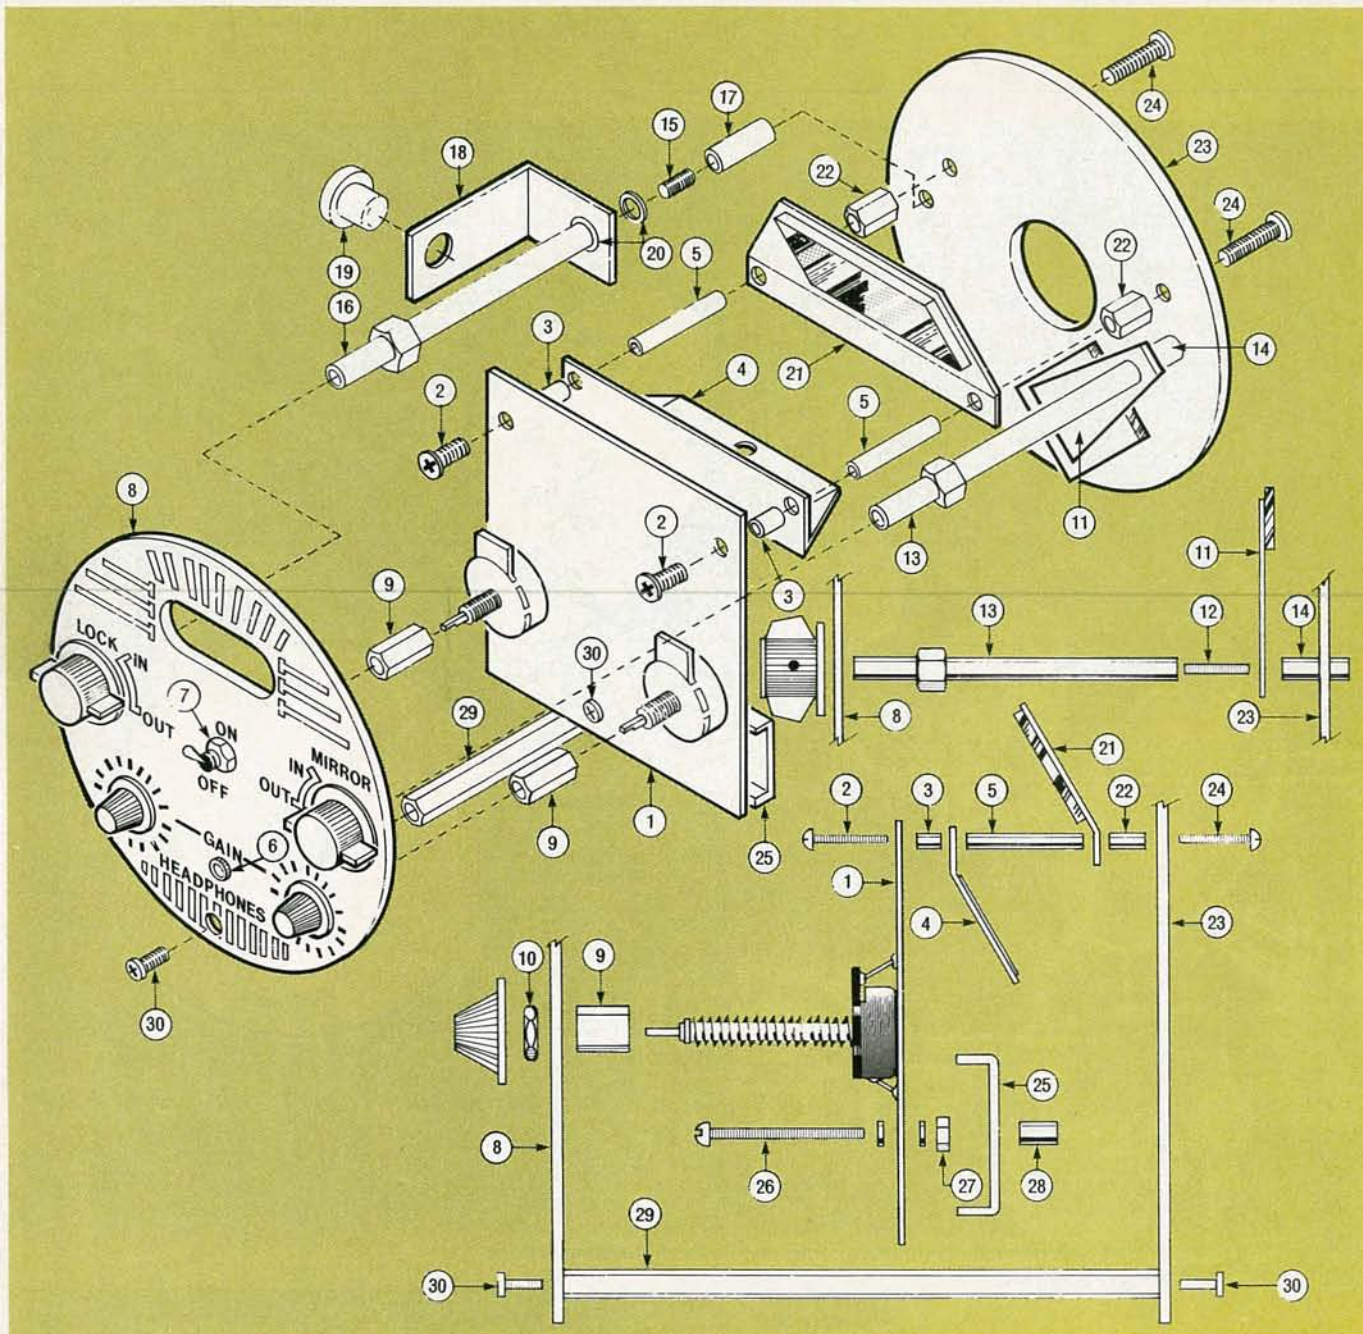

FIG. 2—THE RECEIVER is a little more complicated than the transmitter. Identify all parts before assembling them.
For the receiver assembly, use Fig. 2 as a guide. The PC board (1) should already have the headphone jack, the
PARTS LIST FOR THE RECEIVER (FIG. 2)